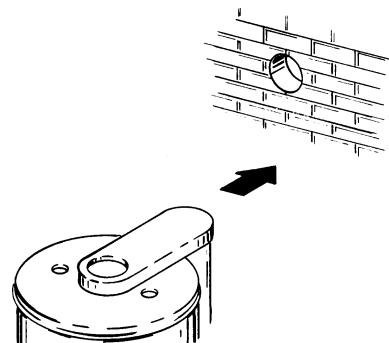

FIGURE 6
2. Move the water heater to its final installed location. Make certain clearances from combustible material are observed. See figure 6.